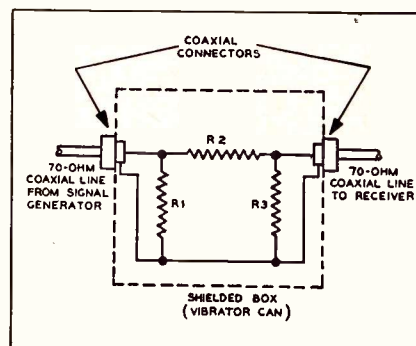

Fig. 1. Attenuator circuit.
4. Install coaxial connectors in the holes, and wire the unit as shown in Fig. 1. Use resistors of the values given in the attenuator chart. These resistors must be of carbon composition construction. Cut open one of each group to verify construction. Normally, the three attenuator combinations shown in the chart, in addition to the sweep generator attenuator, provide an adequate range of attenuation. If more attenuation is required, connect two attenuators in series.